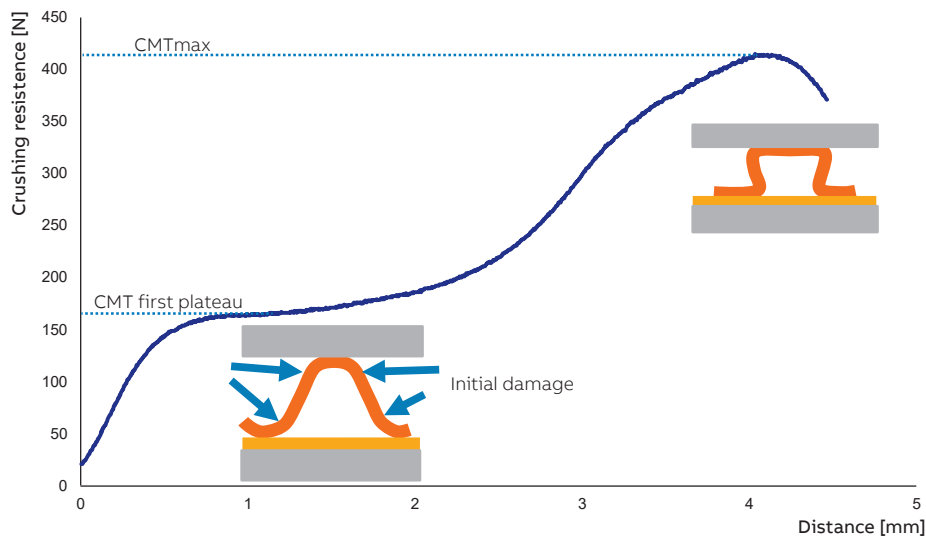

Fig.1: CMT compression curve showing standard CMT_{max} and CMT first plateau FP.
Step 1: By measuring crushing resistance at initial damage of the specimen in a CMT test one can get an indication of the strength potential of the fluting medium, hence the ability to keep the liners apart without lose its own strength. CMT first plateau has been used to define initial damage in this case (Fig.1).